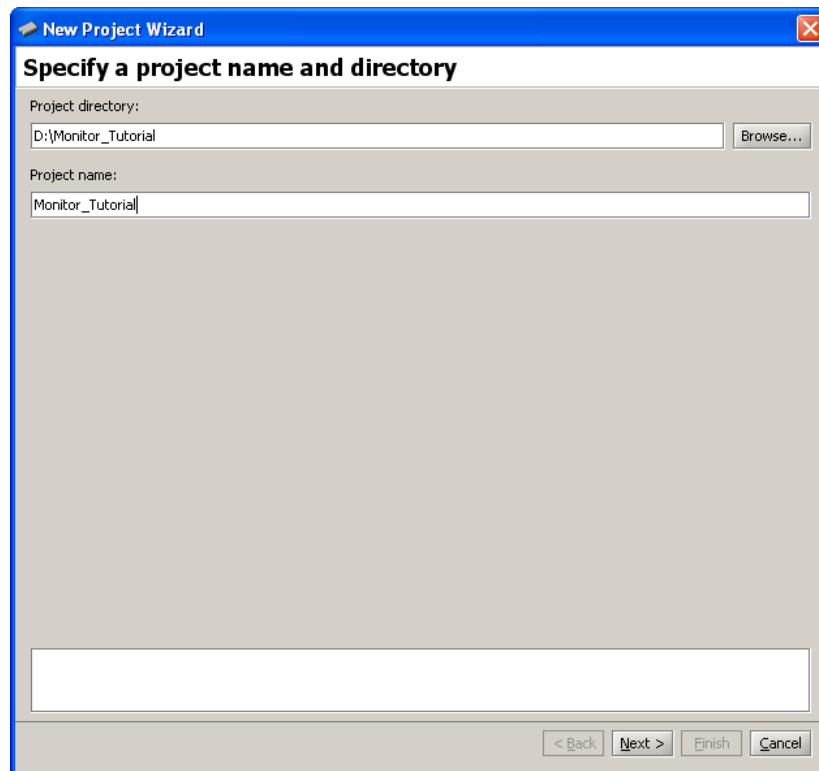

Figure 5. Specifying the project directory and name.
1. Select **File > New Project** to open the *New Project Wizard*, which leads to the screen in Figure 5. The Wizard presents a sequence of screens for defining a new project. Each screen includes a number of dialogs, as well as a message area at the bottom of the window. The message area is used to display error and information messages associated with the dialogs in the window. Double-clicking the mouse on an error message moves the cursor into the dialog box that contains the source of the error.
In Figure 5 we have specified the file system directory *D:\Monitor_Tutorial* and the project name *Monitor_Tutorial*. For simplicity, we have used a project name that matches the directory name, but this is not required.